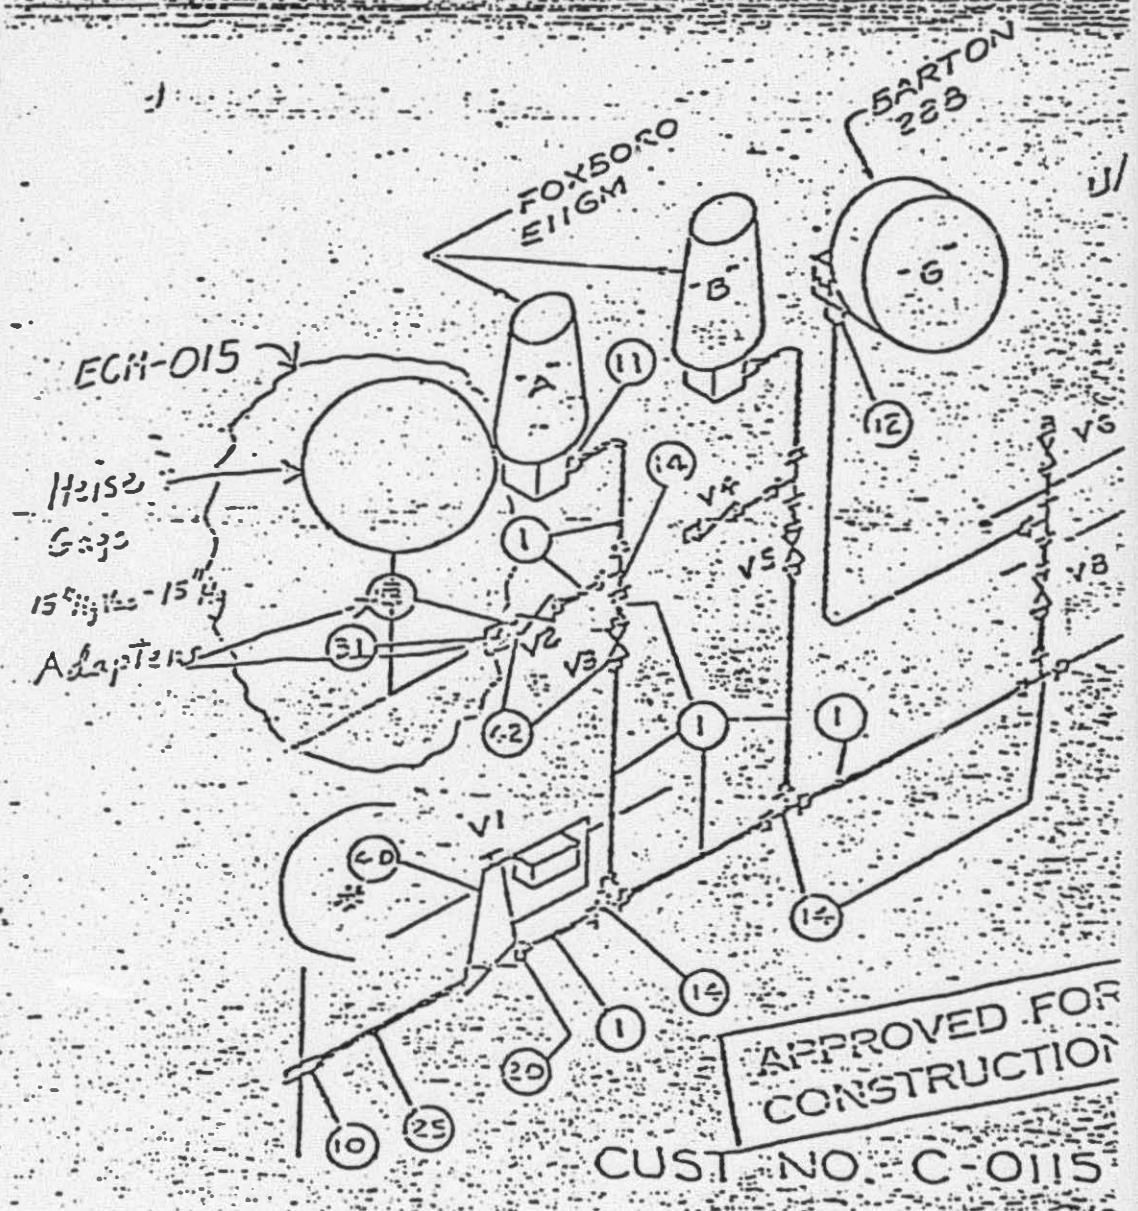

Figure 2
- Heise gage (-3.6 to 30 psi) installed on to Reactor Building Pressure.sensing line per Figure 2 as follows:
- 3.7.1 Close V2 and V3 as shown on Figure 2.